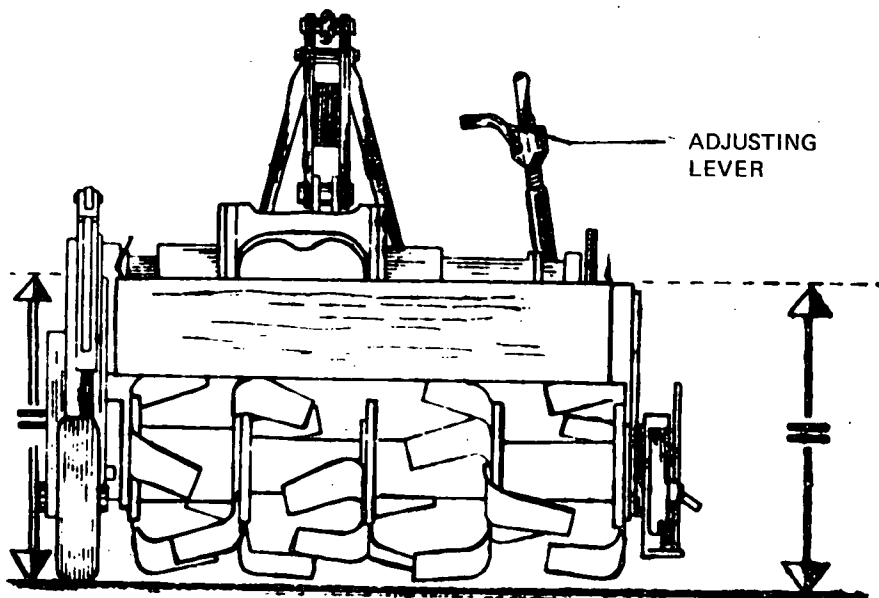

Fig. 2
a) Crosswise and lengthwise (Fig. 2).